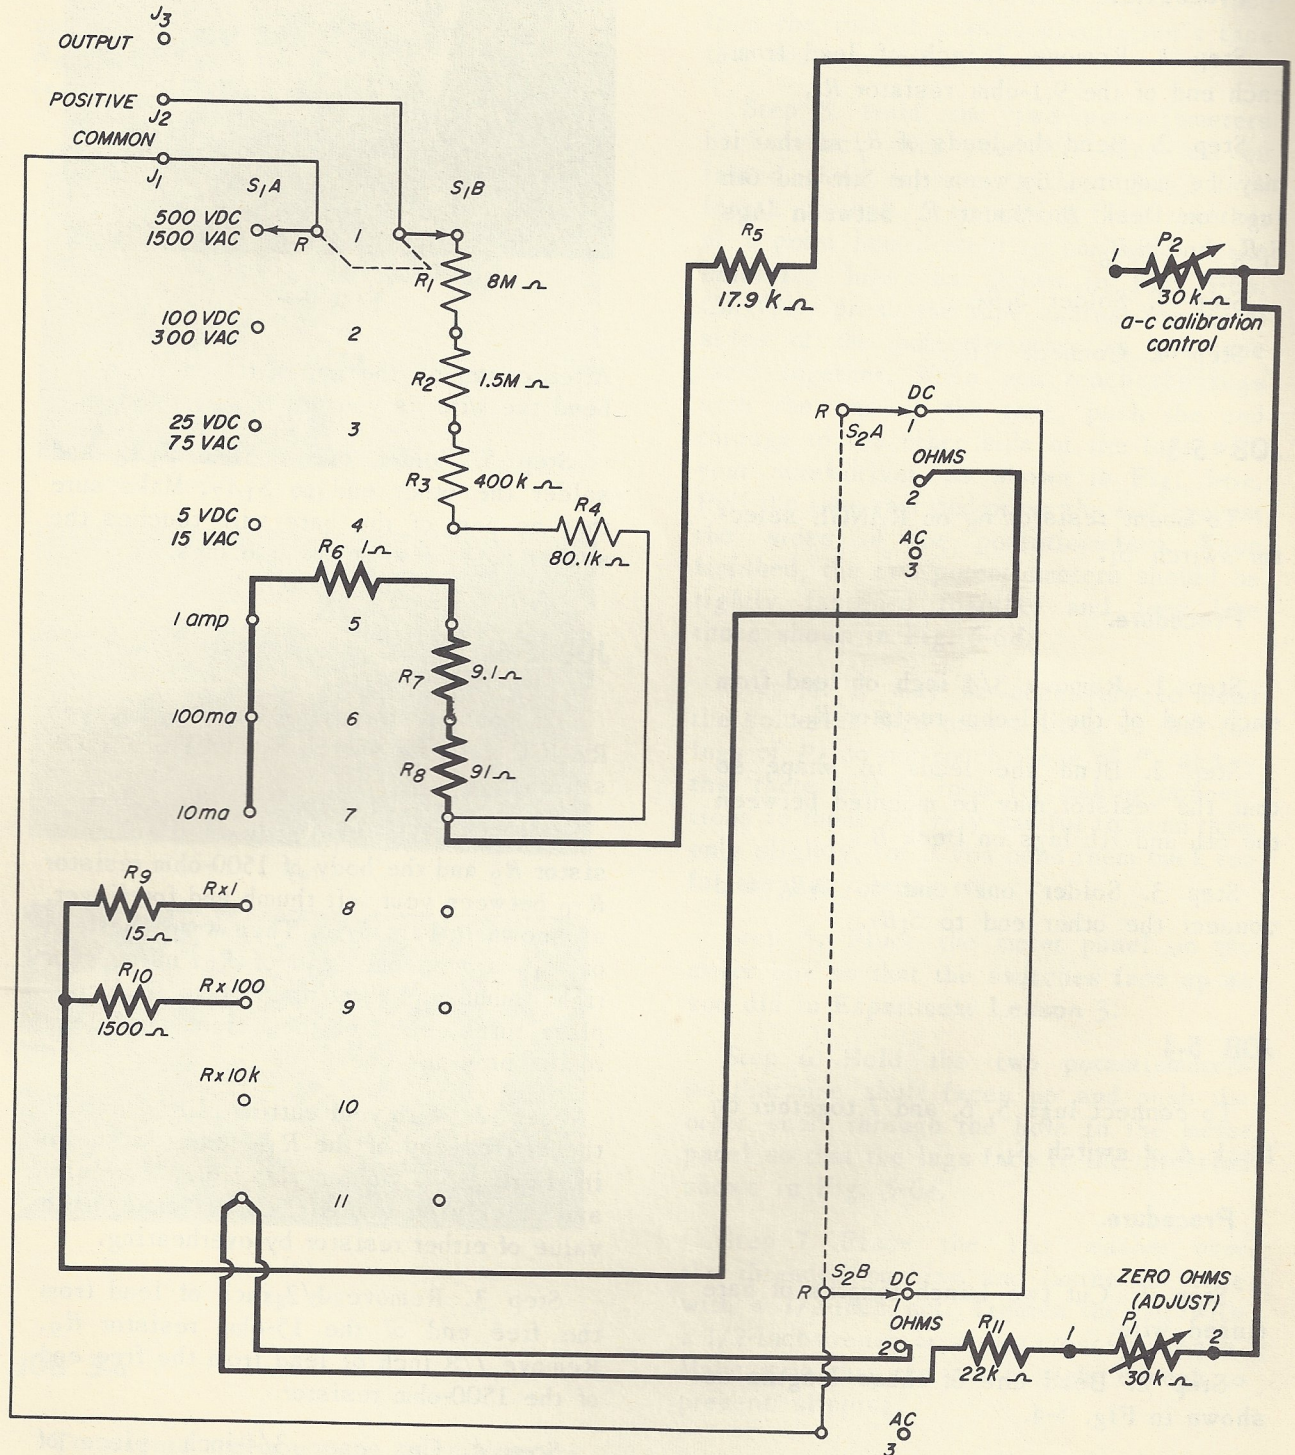

Fig. 5-3
2. Examine the schematic diagram shown in Fig. 5-3 to see the electrical connections to be made in this lesson. You will notice that the work already done is shown by light lines and the work to be done in this lesson is shown by heavy, dark lines. In this way, you can see how the wiring you are now going to do fits in with the wiring completed in Experiment Lesson 3.